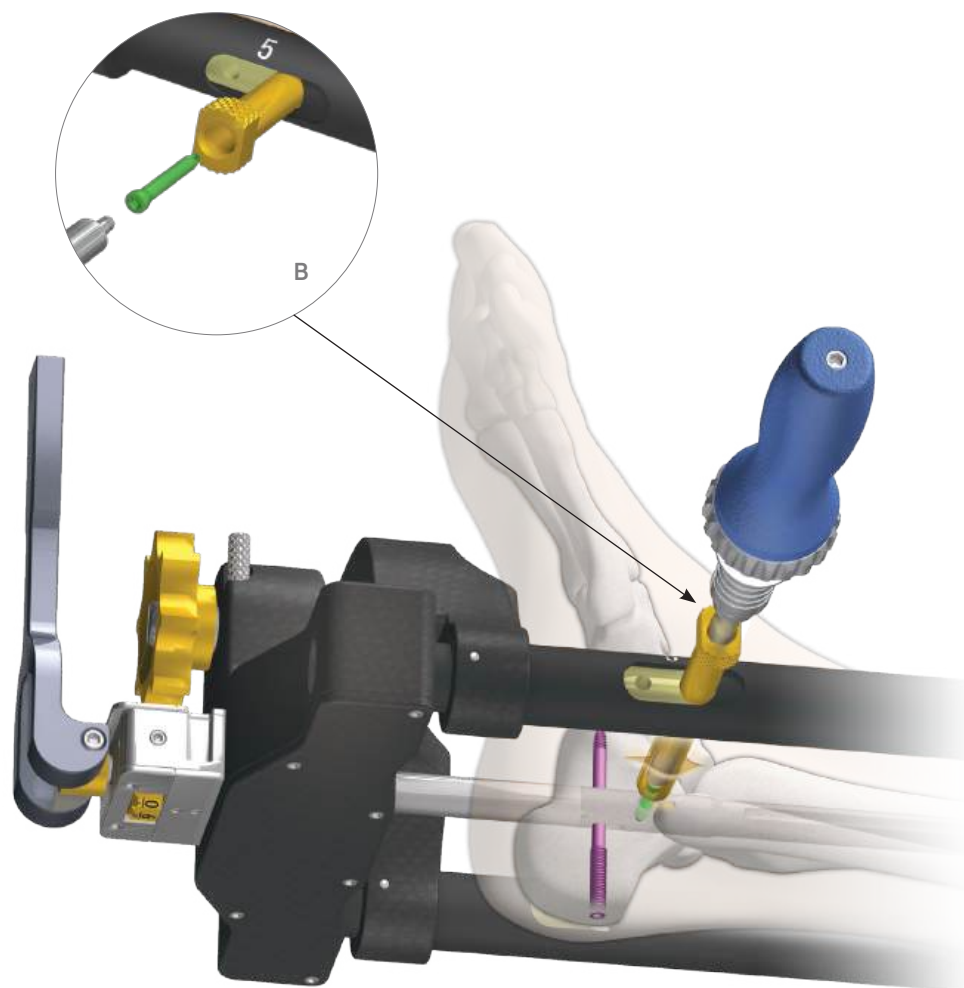

FIGURE 24
Remove the 4 mm Drill Guide from the Guide Sleeve (B). Insert the Cortical Screw through the 8 mm Guide Sleeve using the Wide 3.5 mm Hex Driver as described in Step 11 (FIGURE 24). Use fluoroscopy to determine when desired depth is reached and the screw is fully seated.